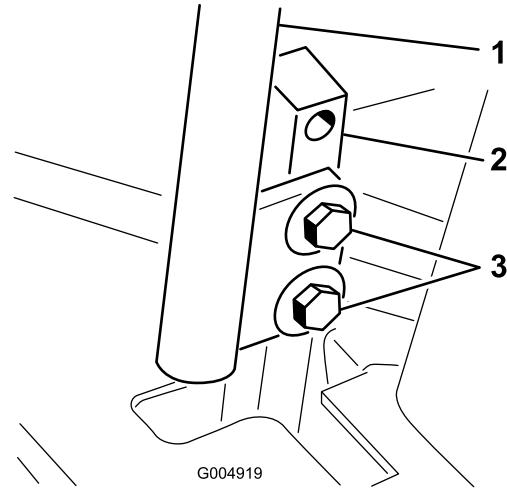

Figure 67
3. Loosen the bolts securing the control levers (Figure 67)